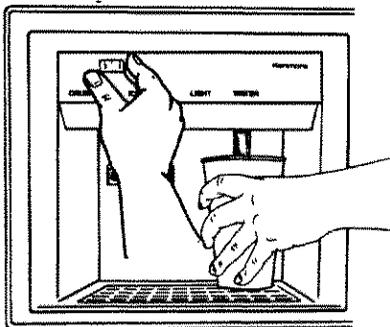

Figure 33
- a. Select CUBE or CRUSHED mode by sliding lever on front dispenser panel to chosen setting. See Figure 33.